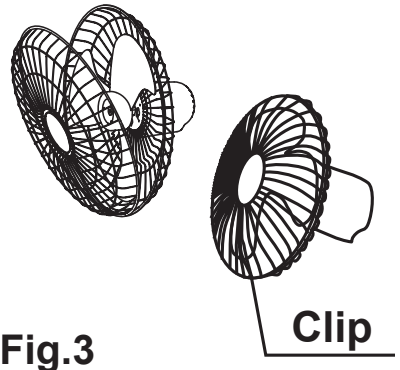

Fig.3
3. Fasten the front grill and the rear grill by the grill clip. (Fig. 3)